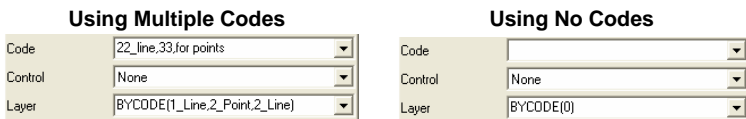

Figure 4-42. Layer Determination when Applying Codes
- If the point has multiple codes, setting the Layer to “BYCODE” forces it to belong to multiple layers (Figure 4-42).
- If the point has no code, setting Layer to “BYCODE” forces the point to belong to layer 0 (zero) (Figure 4-42).